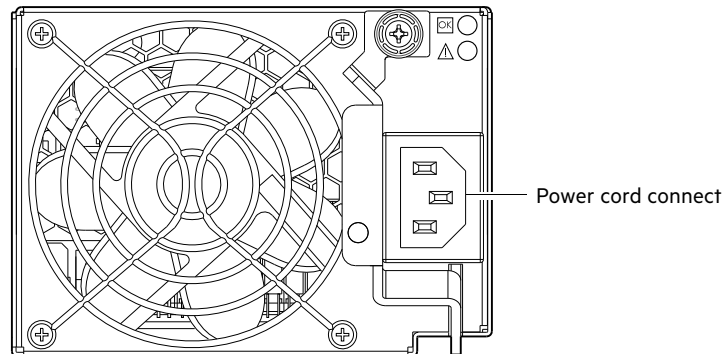

Figure 13 AC power supply
2. Plug the power cord into the power cord connector on the back of the drive enclosure (see Figure 13). Plug the other end of the power cord into the rack power source. Wait several seconds to allow the disks to spin up.
3. Plug the power cord into the power cord connector on the back of the controller enclosure (see Figure 13). Plug the other end of the power cord into the rack power source.